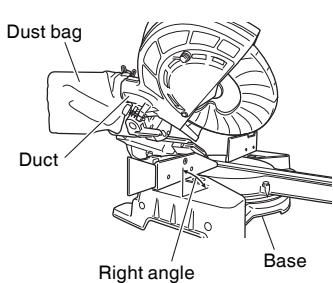

Fig. 46
- (2) During bevel and compound cutting, attach the dust bag at a right angle to the base surface as shown in Fig. 46.